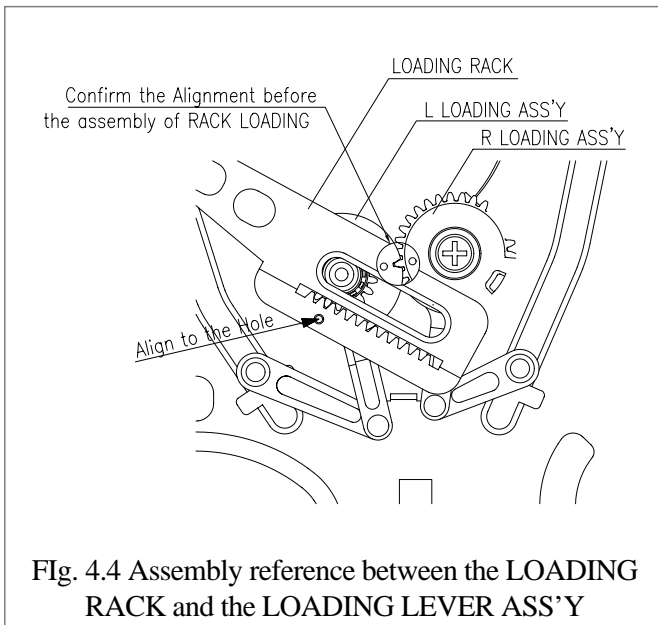

Fig. 4.4 Assembly reference between the LOADING RACK and the LOADING LEVER ASS'Y
- d. Make sure that the triangular mark “A” of the L LOADING Ass’y is aligned with the mark “b” of the R LOADING Ass’y. (Fig. 4.4)
- e. Reference hole “C” of the LOADING RACK should be aligned with the reference hole of the R LOADING Ass’y to make the teeth of the LOADING RACK is aligned as shown in Fig. 4.4.